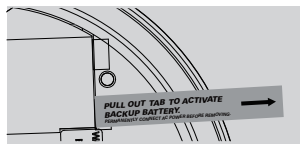

Figure 9-A
**NOTE:** To avoid false low battery chirping pull out the battery pull tab first to activate the backup batteries (see Figure 9-A). Battery activation is confirmed with a beep. If the beep does not occur when the battery pull tab is removed, remove the batteries and reinstall them. Confirm the battery activation beep.